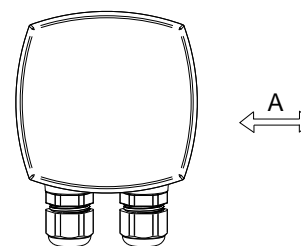

Figure 1 Installation direction in duct (A = air flow direction)
- Place the DTTC/DTTHC transmitter in the duct with the cable glands perpendicular to the air flow direction, see *Figure 1*.